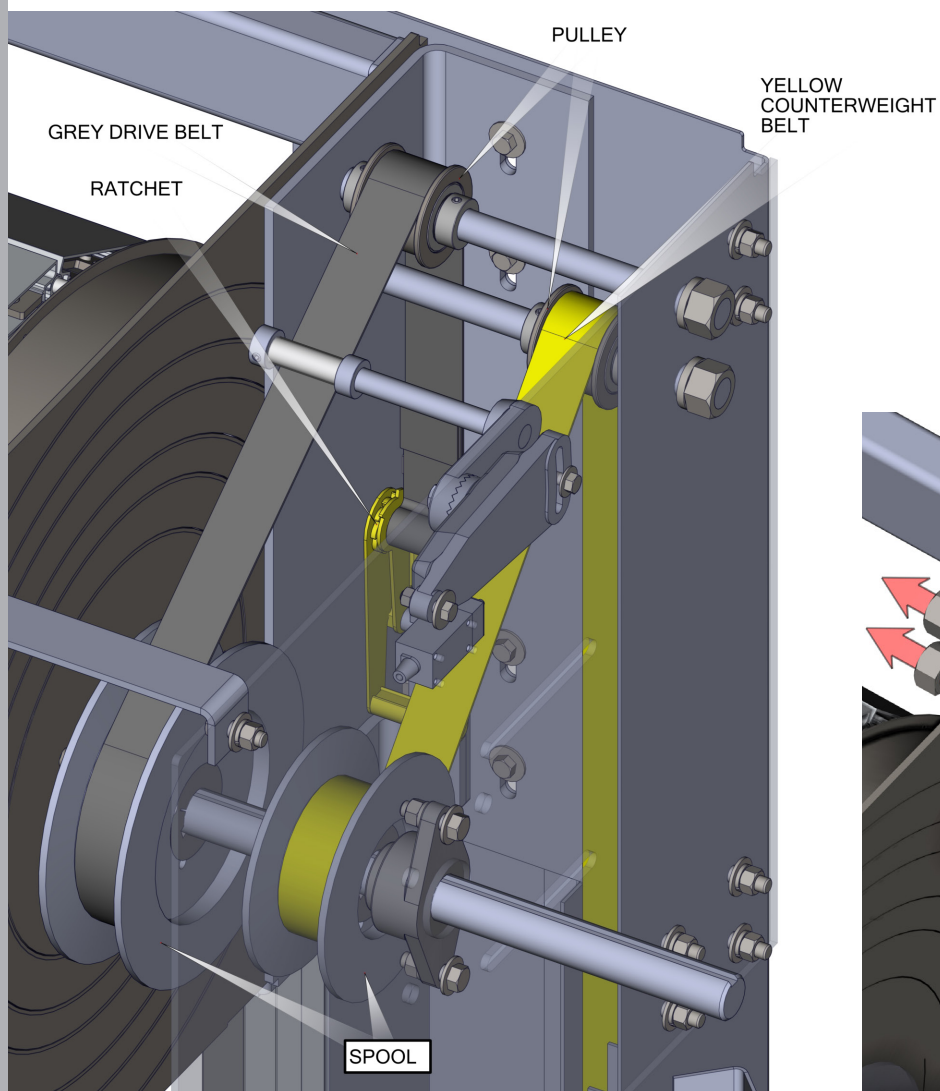
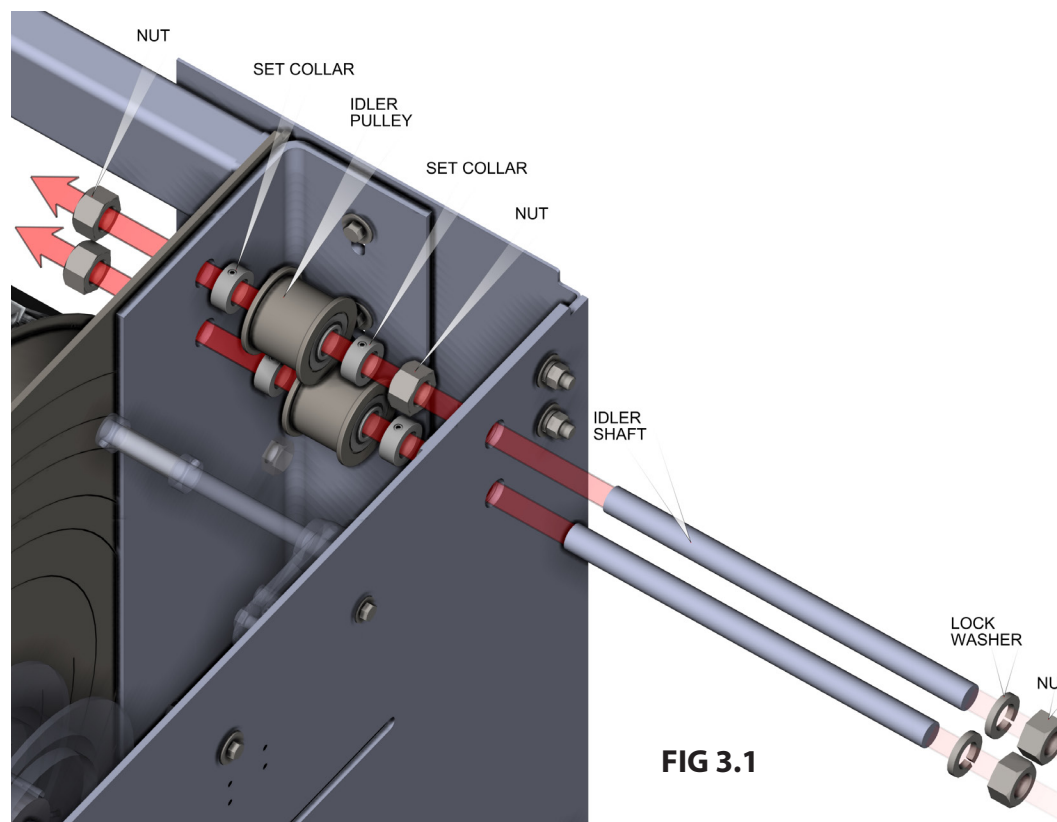

FIG 3.0
FIG 3.1
3. Loosen the set screw in the set collars. Remove the hex nuts from the idler assemblies. Remove the yellow counterbalance belt and set aside. Loosen and remove grey drive belt from ratchet. Remove the grey drive belt and set aside. Remove idler assemblies and set aside, as shown in FIG 3.0 and FIG 3.1.